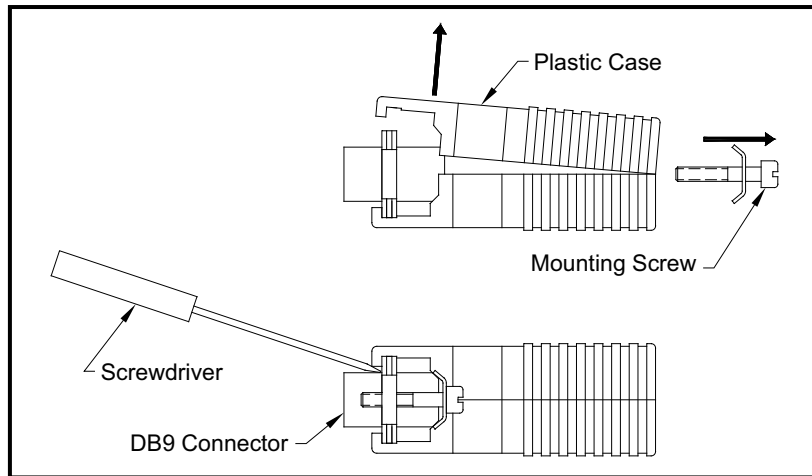

Figure 10: Opening the Converter Case
5. Use a small screwdriver to pry open the *plastic case* of the serial interface converter, as shown in *Figure 10 on page 75*.